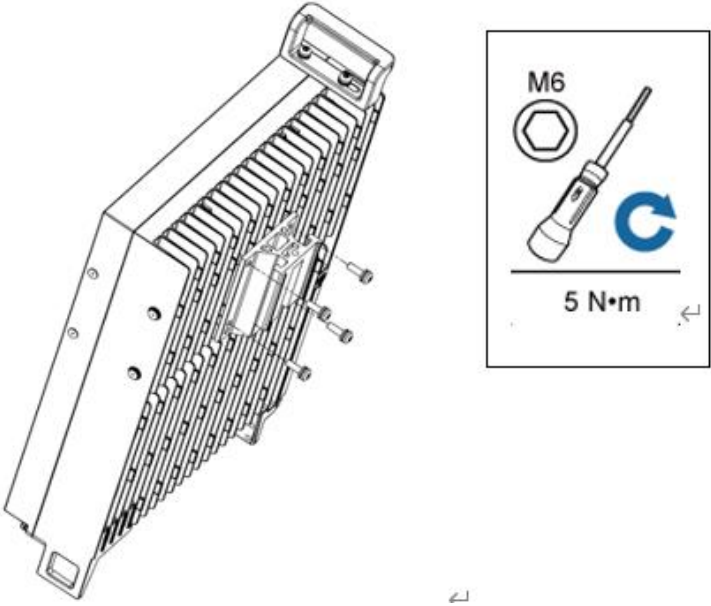

Figure 3-13 Installing the bracket onto the rear of the ORRU
Step 5: Use hexagon torque screwdriver to install the main bracket onto the rear of the ORRU, and tighten the four stainless screws, as shown in **Figure 3-13**.